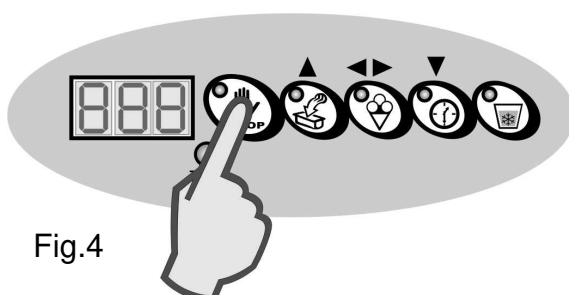

Fig.4
8. To exit programming and save the changed press the "STOP" key. (fig. 4)